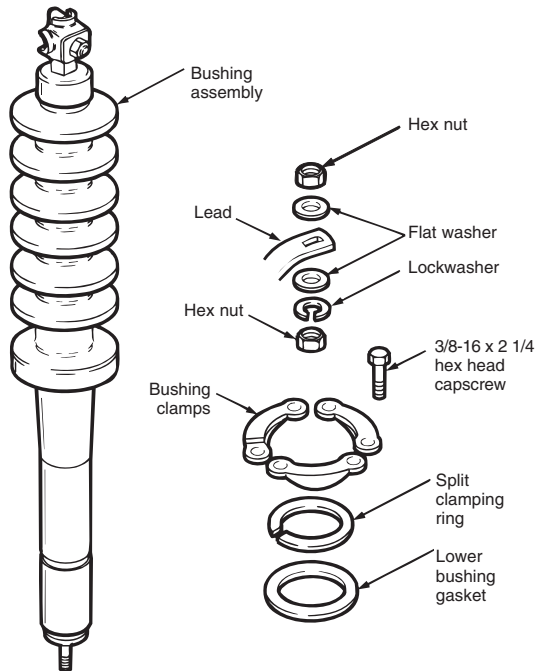

Figure 1. Bushing removal
4. If bushings are equipped with corona shields, loosen clamps and slide corona shields from bushings, see Figure 1.